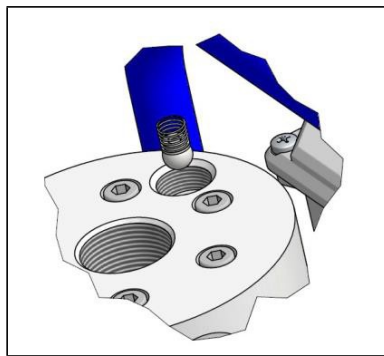

Fig.10.1.10
3. (Fig.10.1.10) Using, for example, a pair of pliers, the pen ball-set can be removed.